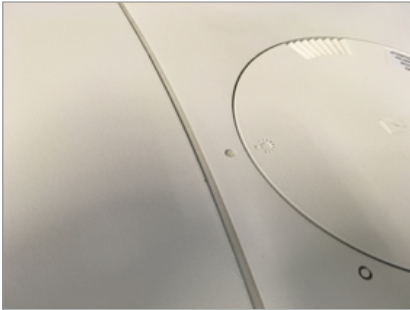

Figure 13
- To replace the top access panel, insert the panel into the opening. As you do so, align the lamp image on the lid with the raised dot on the underlying case. Rotate the panel clockwise until the lamp symbol aligns with the open-circle symbol (*Figure 13*).